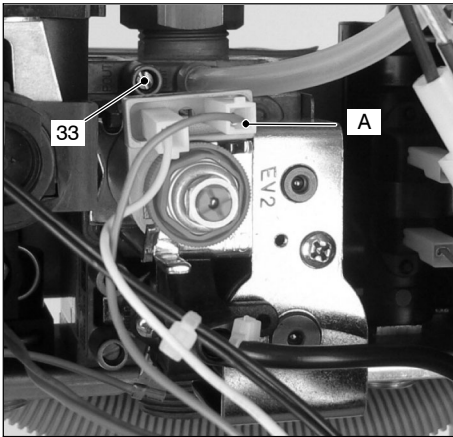

Fig. 7.4
- 2 Loosen the internal screw 33 (Fig. 7.4) on the Outlet Pressure Test Point of the Gas Valve and connect a pressure gauge using a suitable hose.
- 8 Disconnect the gas modulator coil by removing the electrical connector A (Fig. 7.4).
- 2 Open the gas valve outlet pressure test point 33 (Fig. 7.4) and connect the gauge.